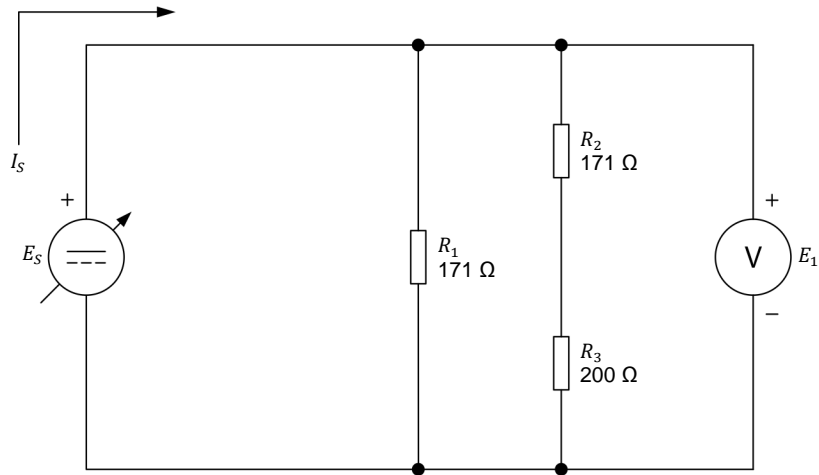

Figure 22. Determining the equivalent resistance of resistors connected in series-parallel (case 2).
20. Set up the series-parallel circuit shown in Figure 22. To obtain the resistor arrangement of Figure 22, make the necessary connections and switch settings on the Resistive Load module.
21. Calculate the equivalent resistance  $R_{Eq.}$  of series-parallel resistors  $R_1$ ,  $R_2$ , and  $R_3$  in Figure 22.